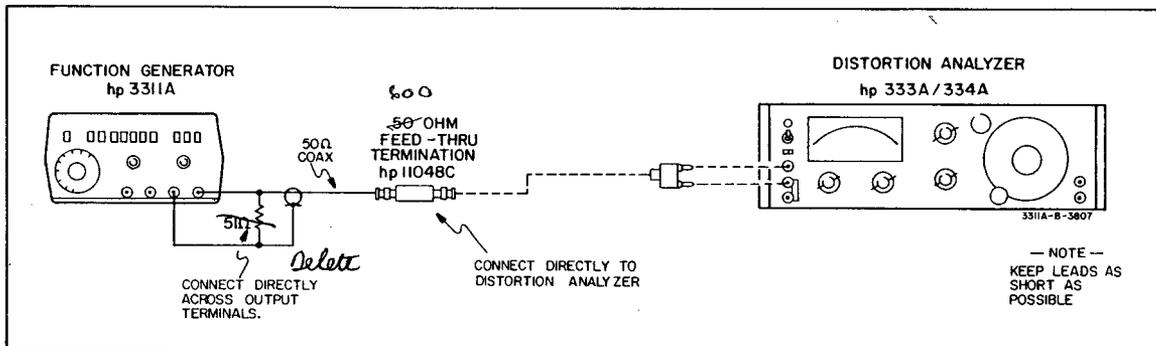

Figure 5-3. Distortion Test.
- Connect the equipment as shown in Figure 5-3.